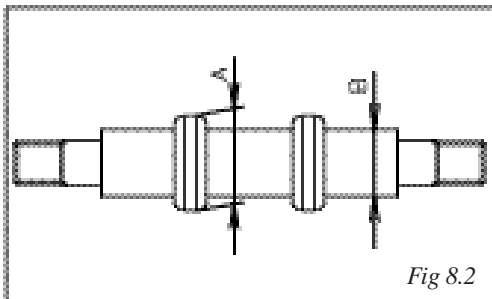

Fig 8.2
- Center rod assembly (Fig. 8.2)
- Measure the outside diameter (A), and if it is outside the usable range, replace the slipper seal.
**Usable range of slipper seal (A)**